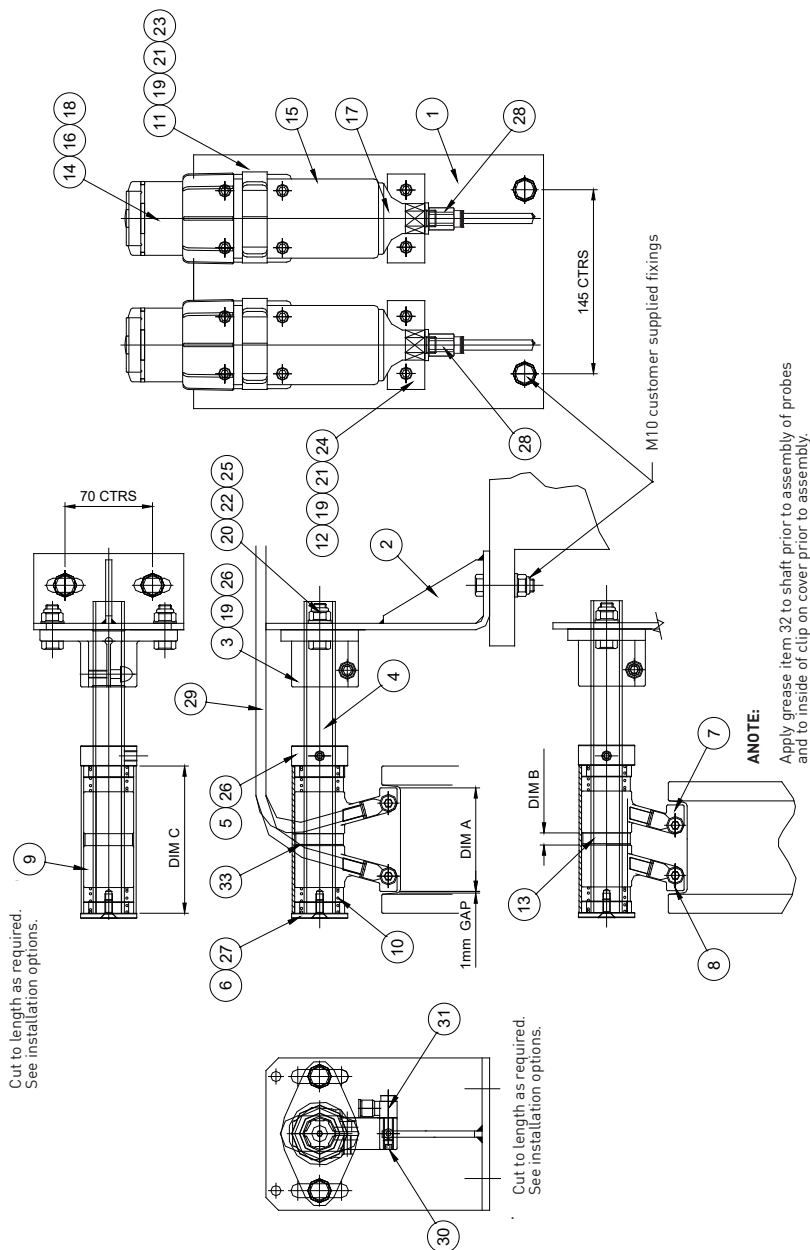

figure 2
- Assemble all parts of the perma CWL PLUS SET in accordance with the drawing (figure 2 + chart 1).
- Position the perma CWL PLUS Applicator Assy and mark out the mounting bracket holes (No. 2, figure 2). Drill and tap to suit M10 fixing.